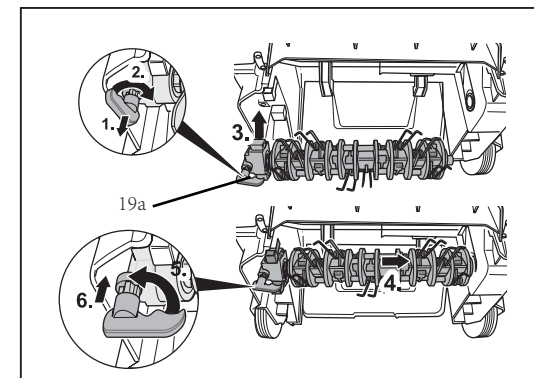

Fig. 13
1. Pull the securing lever (19a) up and turn it to the unlock position, see Fig. 13, step 1, 2.
2. Put the drum in, see Fig. 13, step 3.
3. Slide the drum to one side, ensuring both bearings align correctly, see Fig. 13, step 4.
4. Check both ends are seated correctly, turn the securing lever to its lock position, see Fig. 13, step 5,6.